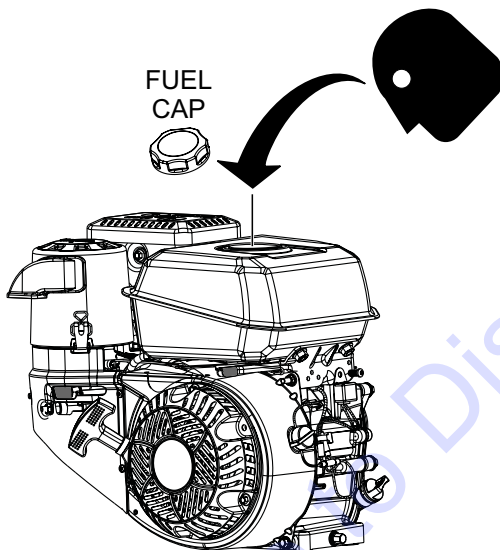

Figure 11. Engine Oil Dipstick (Oil Level)
2. Visually inspect (Figure 11) to see if fuel level is low. If fuel is low, replenish with unleaded fuel.